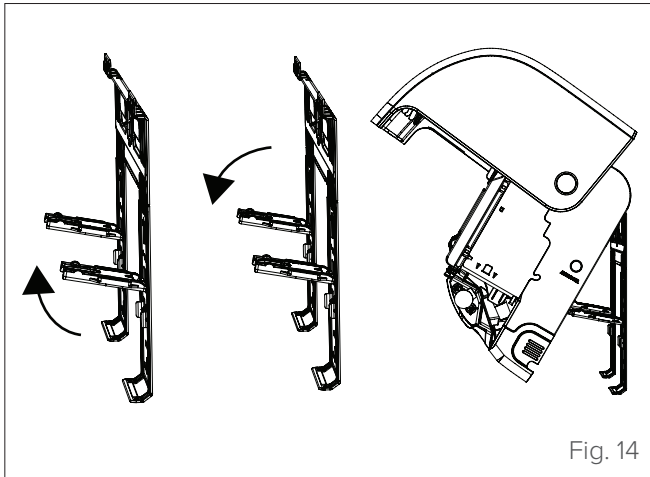

Fig. 14
- 2 Use the supports in the mounting plate to lift the unit so that there is enough space to connect the refrigerant piping, electrical cables and drainage pipe (see "Fig. 14").